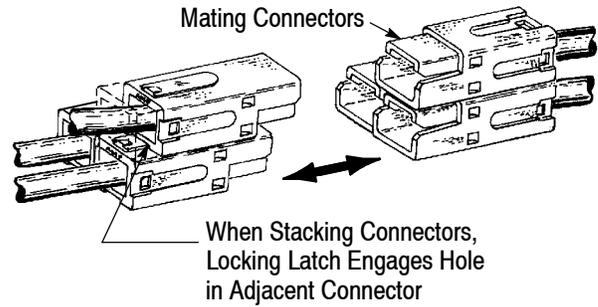

Figure 4
Stack and mount connectors as needed, being sure that locking latches are properly engaged with holes in adjacent connectors (see Figure 4). Use spacers and polarizing key as needed.
2. Assemble mating connectors (see Figure 4).